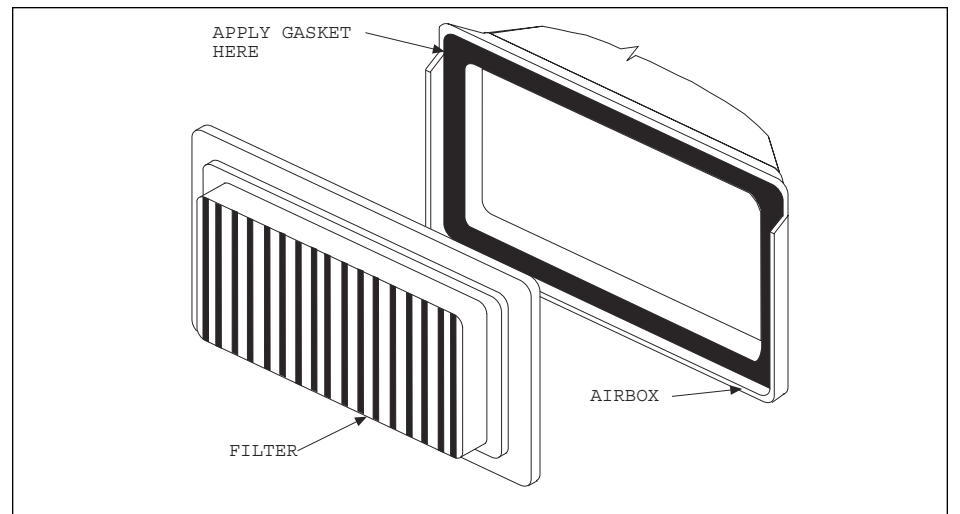

Fig. 2
- 5) The oiled K&N filter is now ready to be installed (see fig. 2 below).